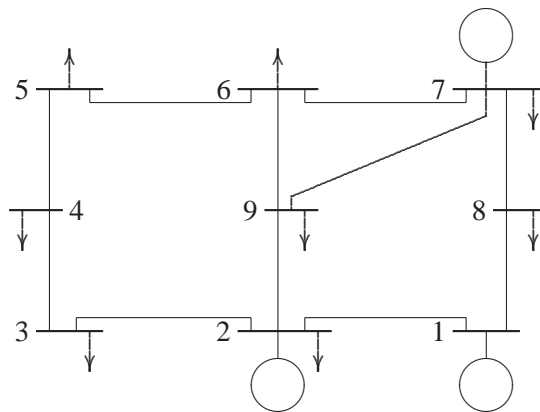

FIGURE 64 One-line diagram for Problem 7.12.
7.12. The 9-bus power system network of an Electric Utility Company is shown in Figure 64. The load data is tabulated below. Voltage magnitude, generation schedule and the reactive power limits for the regulated buses are also tabulated below. Bus 1, whose voltage is specified as $V_1 = 1.03\angle 0^\circ$, is taken as the slack bus.